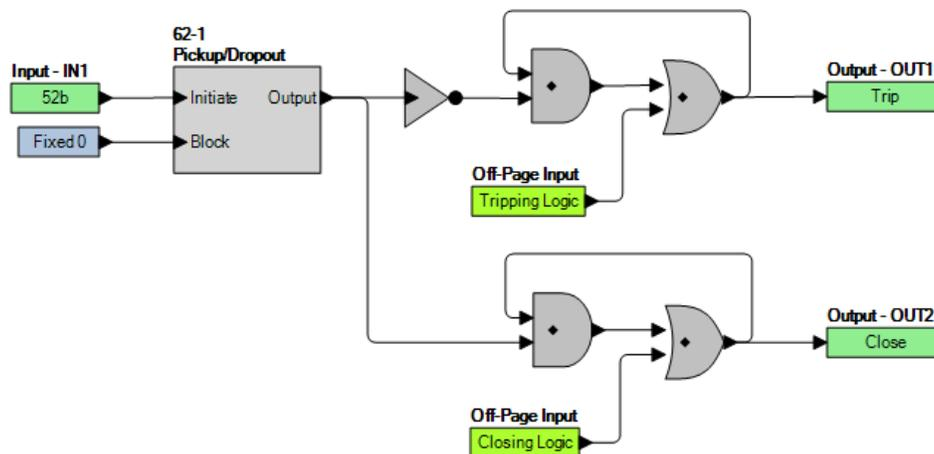

Figure 4-6. Contact Output Seal-In Logic Diagram
If the protection engineer desires seal-in logic with feedback from the breaker position logic, they can provide this logic by modifying the logic for the tripping output. To do this, use one of the general purpose timers (62) and set it for Pickup/Dropout mode. Set the timer logic so that it is initiated by the breaker position input and set the timer for two cycles pickup and two cycles dropout. The same can be done for the closing output. Figure 4-6 provides a seal-in logic diagram.